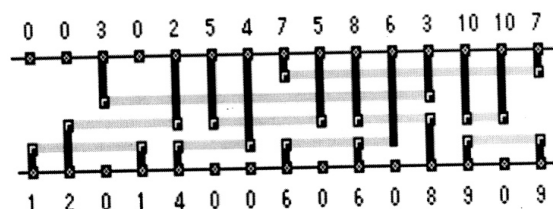

Fig. Q 9 (b)
- b. Find the global channel density for the channel shown in Fig. Q 9(b). 2